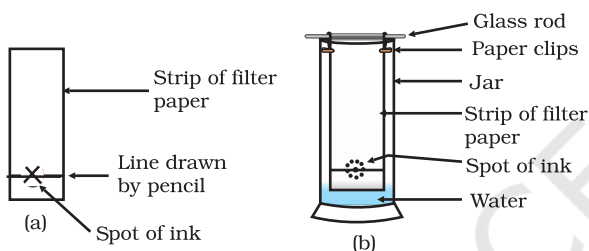

Fig. 2.8: Separation of dyes in black ink using chromatography
- Draw a line on it using a pencil, approximately 3 cm above the lower edge [Fig. 2.8 (a)].
- Lower the filter paper into a jar/glass/ beaker/test tube containing water so that the drop of ink on the paper is just above the water level, as shown in Fig. 2.8(b) and leave it undisturbed.